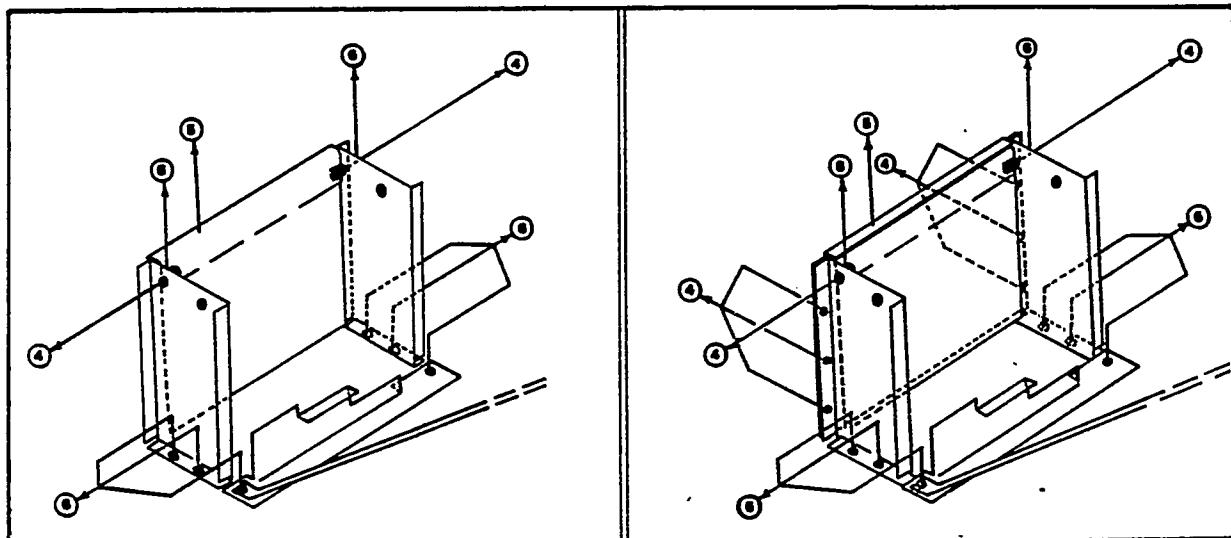

fig.2a.
- () 4. Remove the two screws mounting the TLB board (one at each end of its heatsink). fig.2a. (On newer H/Z89s also remove the six screws holding the TLB to the rear shield). fig.2b.